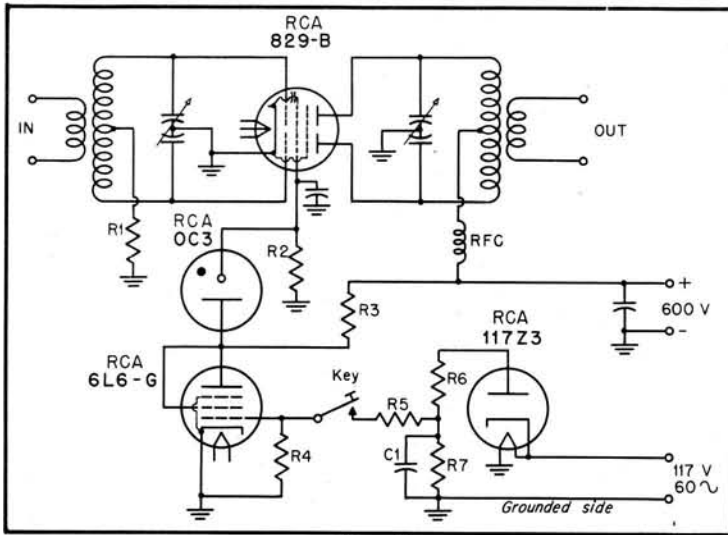

Figure 5
A practical application of the system is shown in Fig. 5. Here an 829-B final is keyed with an OC3 controlled by a 6L6-G. Cutoff bias for the 6L6-G is obtained from a 117Z3 as shown, or it can be taken from any type of supply capable of furnishing 125 volts of bias.
- Fig. 5